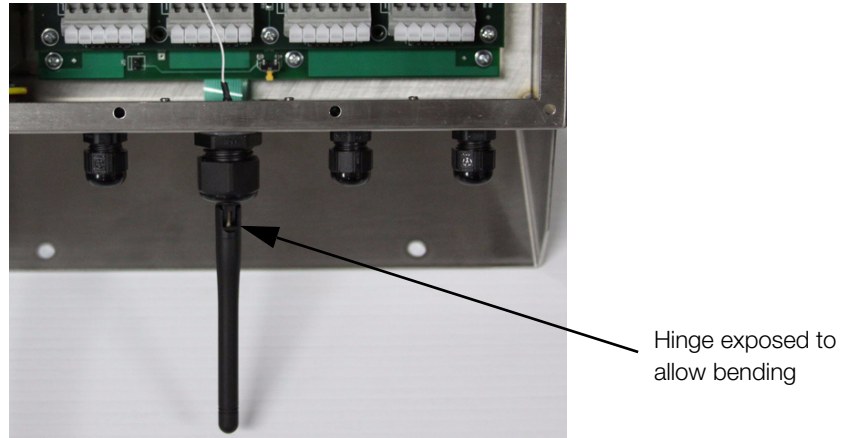

Figure 3. Location of the WLAN Antenna
2. Place the antenna through the large cord grip, closest to the option card (see Figure 3). Make sure the antenna extends out of the cord grip enough so that its hinge is able to bend.